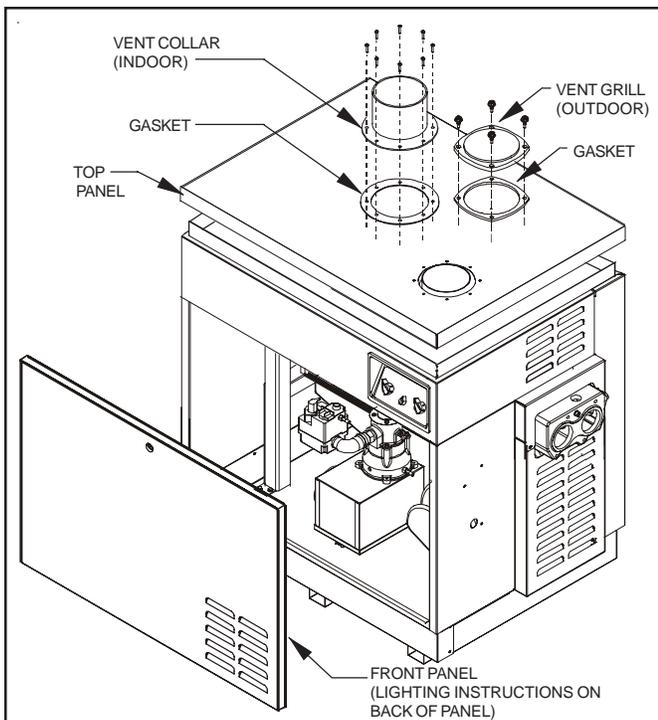

Figure 1- Remove Jacket Panels
1. Remove the front panel of the heater (see Fig. 1).
3. Remove the exhaust grill and gasket (if outdoor installation) or the vent pipe, vent collar and gasket (if indoor installation), from the top of the heater (see Fig. 1).
4. Remove the top from the heater (see Fig. 1).
- a. Replace the top of the heater. Be sure that the gasket on the top of the vent duct is still in place and in good condition (see Fig. 1).
- b. Replace the exhaust grill and gasket (if outdoor installation) or the vent pipe, vent collar and gasket (if indoor installation). Inspect the gaskets to be sure they are not cracked or torn. Be sure that the screws engage the brass inserts in the vent duct under the top (see Fig. 1).